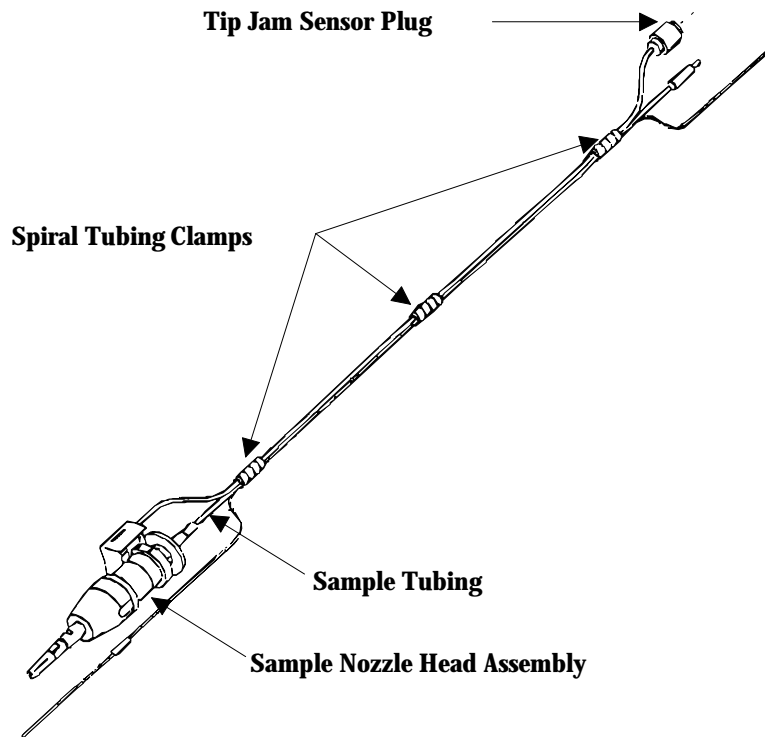

Figure 3
2. (refer to **figure 3**) Remove the three spiral tubing clamps, un-plug the tip jam sensor plug, pull the sample tubing out of the nozzle head assembly.
9. (refer to **figure 3**) Install the sample tubing into the end of the nozzle shaft. The silicone tubing is stretched over the tapered end of the nozzle shaft and pushed down until it touches the jamming switch actuator. This provides an air-tight seal for the pipetting system.